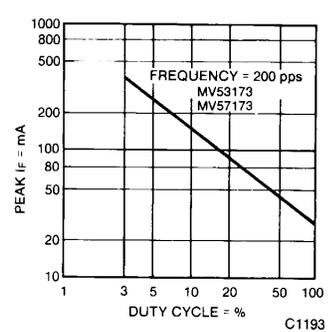

Fig. 3. Max Peak Current vs. Duty Cycle
2.	The curve in Figure 3 is normalized to the brightness at 25°C to indicate the relative efficiency over the operating temperature range.